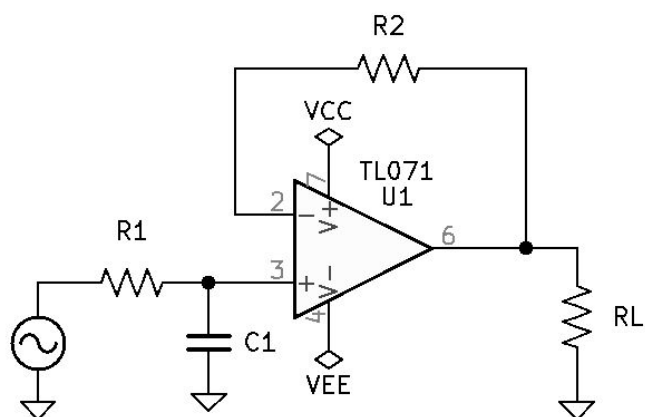

Figure 8.3: Low-Pass First-Order Active Filtering Circuit.
1. See Figure 8.3 *Low-Pass First-Order Active Filtering Circuit* on page 70.